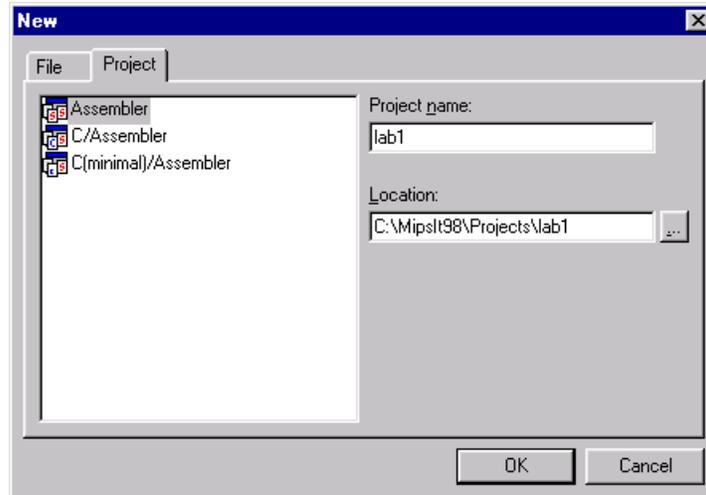

FIGURE 11 The New dialog, Project tab.
1. Choose New from the File menu. Then, in the resulting New dialog box (shown in Figure 11) click the Project tab (if it is not already selected).